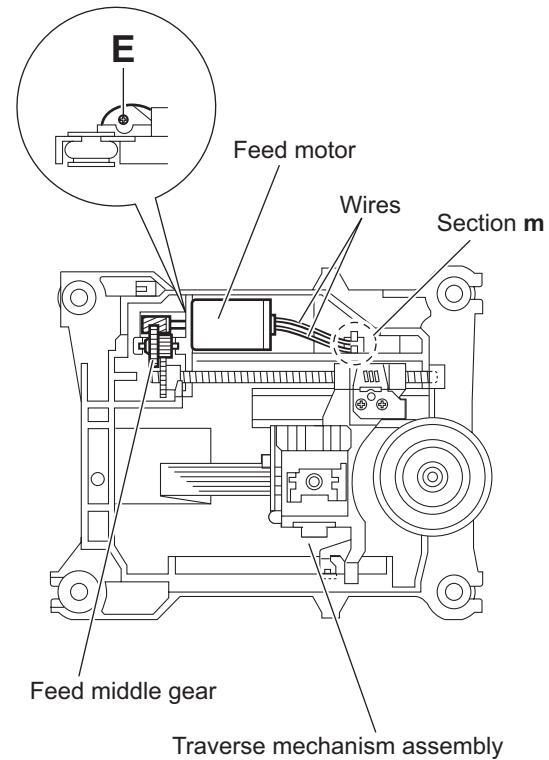

Fig.11
- (4) Remove the feed middle gear and remove the screw **E** attaching the feed motor. (See Fig.11)
- (5) Take out the feed motor from the traverse mechanism assembly.
When attaching the feed motor, pass the wires through the section **m** on the traverse mechanism assembly. (See Fig.11)